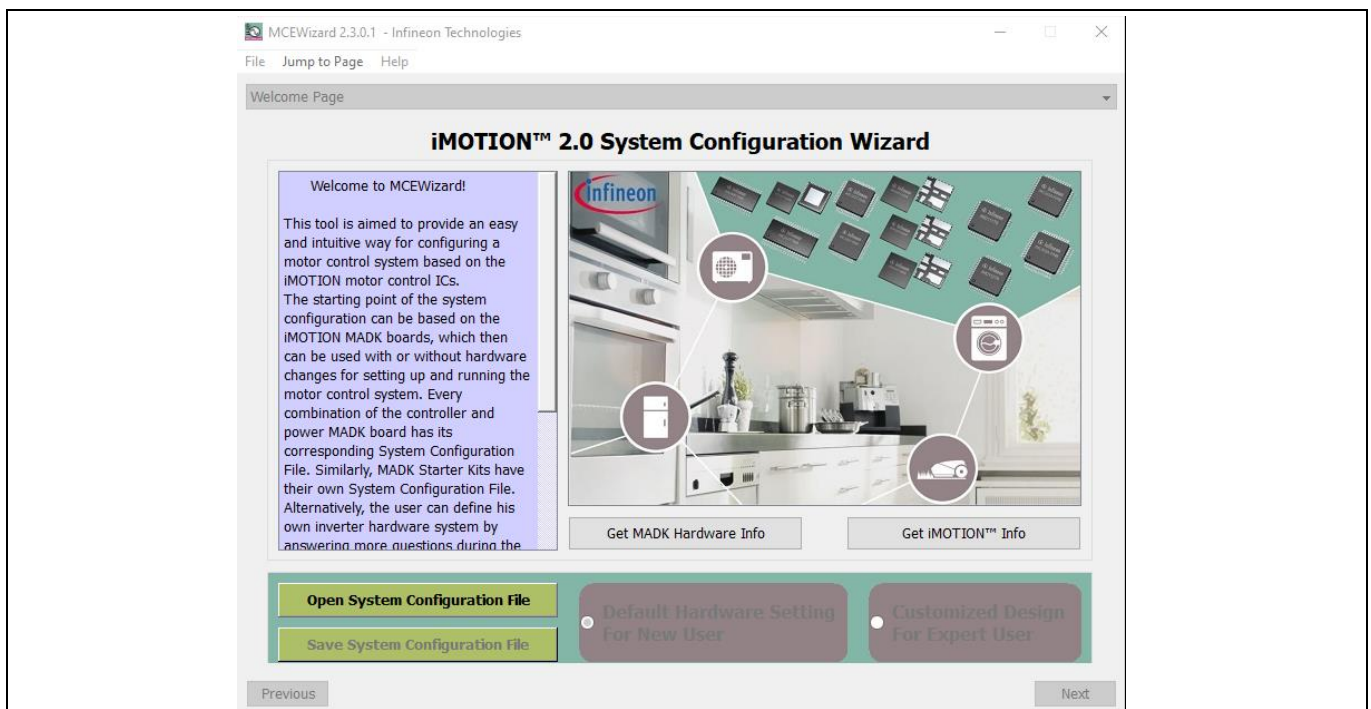

Figure 4 MCEWizard welcome page
- Double-click the MCEWizard shortcut on Windows desktop; the MCEWizard welcome page is shown as in Figure 4.